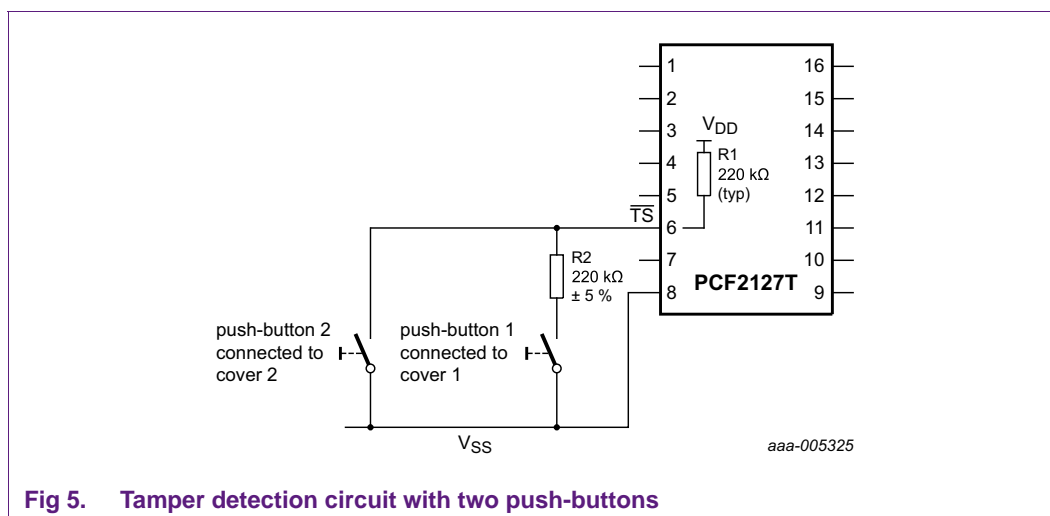

Fig 5. Tamper detection circuit with two push-buttons
Figure 5 shows the double tamper detection application.
- The timestamp detection is enabled by default (TSOFF = 0), see Figure 5